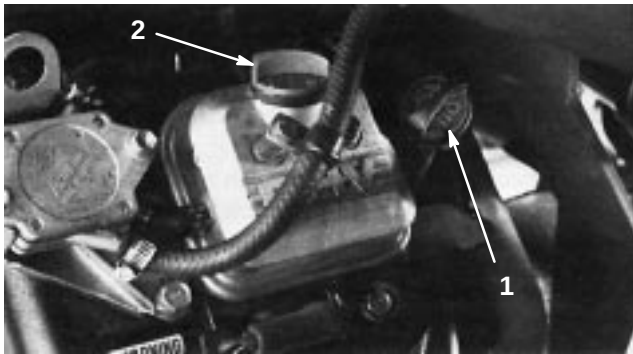

Figure 15
2. Unscrew the dipstick and wipe it with a clean rag. Screw the dipstick into the tube and make sure it is seated fully (Fig. 15). Unscrew the dipstick out of the tube and check the oil level. If the oil level is low, remove the filler cap from the valve cover and add enough oil to raise the level to the Full mark on the dipstick.